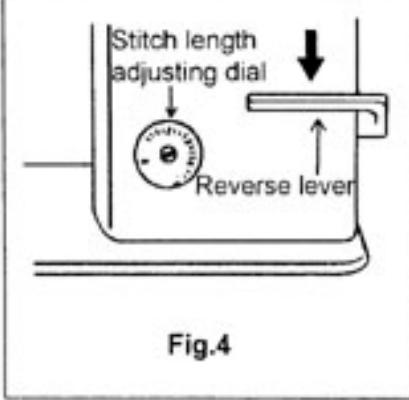

Fig.4
5. Adjustment of stitch length and reverse sewing (Fig.4):